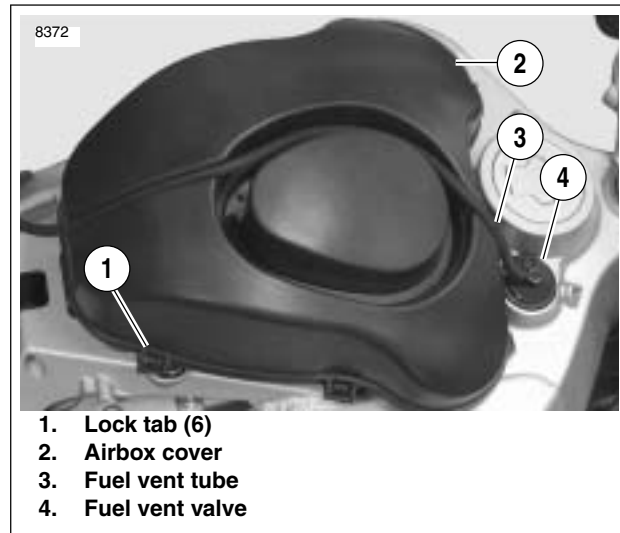
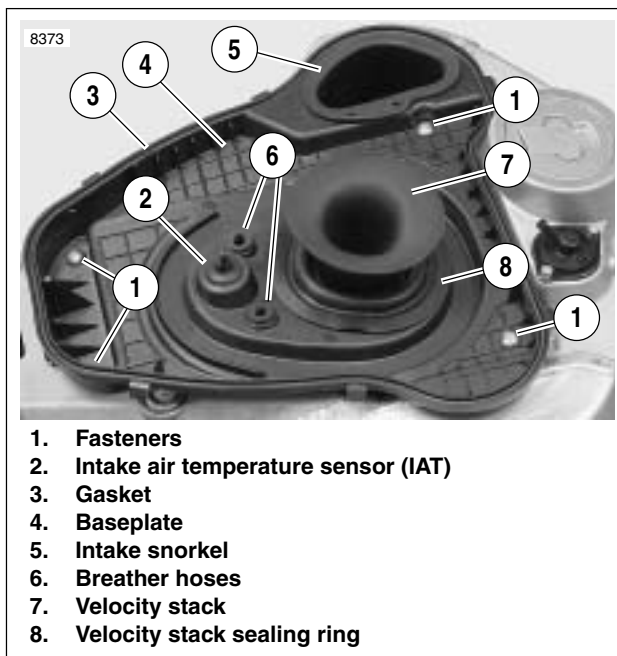

Figure 4-119. Airbox Cover (XB9 Models)
Figure 4-121. Baseplate
2. See Figure 4-119. Remove fuel vent tube (3) from fuel vapor valve (4) and groove on top of airbox cover (2).
3. Unlatch six lock tabs (1) and remove airbox cover from baseplate.
5. See Figure 4-121. Remove airbox baseplate.
- a. Remove four fasteners (1) and raise baseplate (4).
- d. Remove IAT sensor (2) from grommet on bottom of baseplate.
- e. Lift baseplate off of frame, carefully disengaging baseplate from rubber sealing ring (8) on velocity stack (7).
1. See Figure 4-121. Hold baseplate above mounting position.